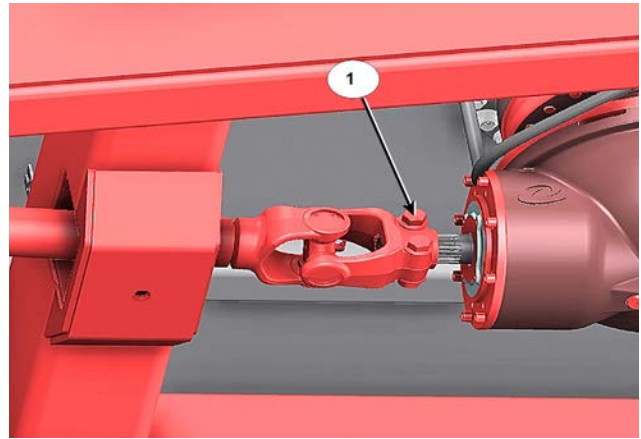

Figure 4: Remove the Driveline from the Machine
7. Loosen the driveline fasteners (1) from the front screw planetary splined shaft, see *Figure 4*.